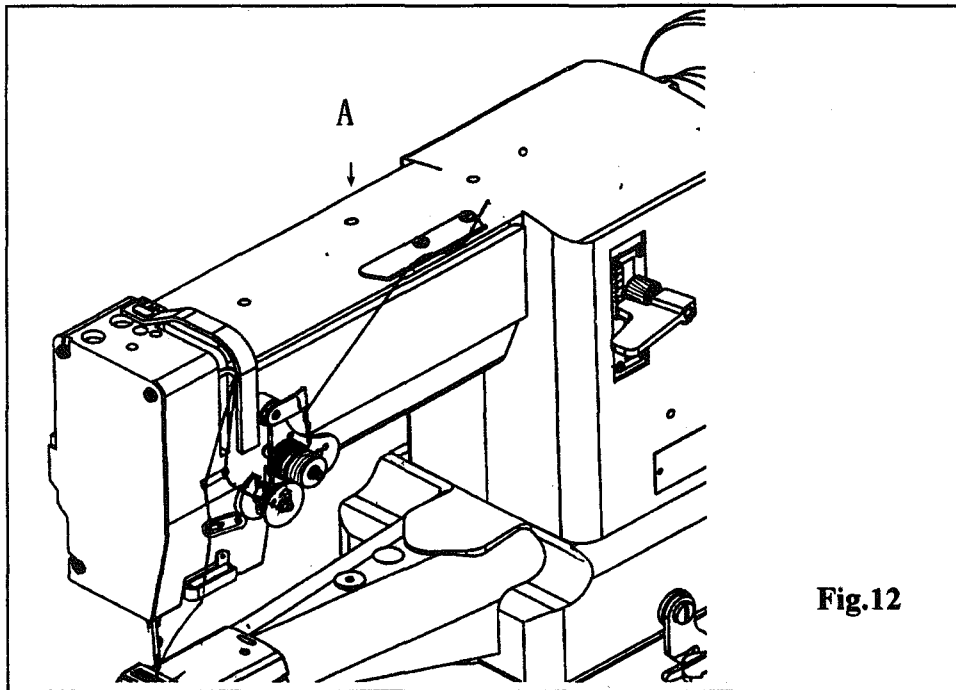

Fig.12
10. ADJUSTING THE PRESSURE OF PRESSER FOOT (Fig.12)